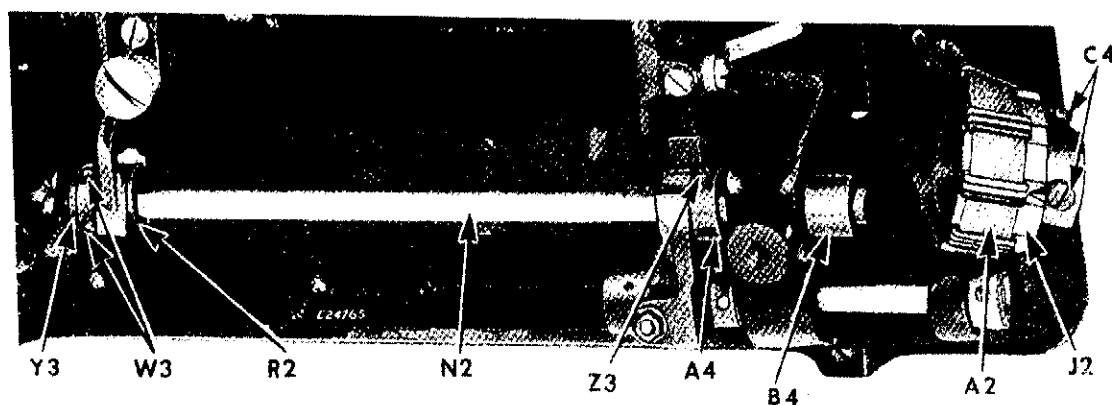
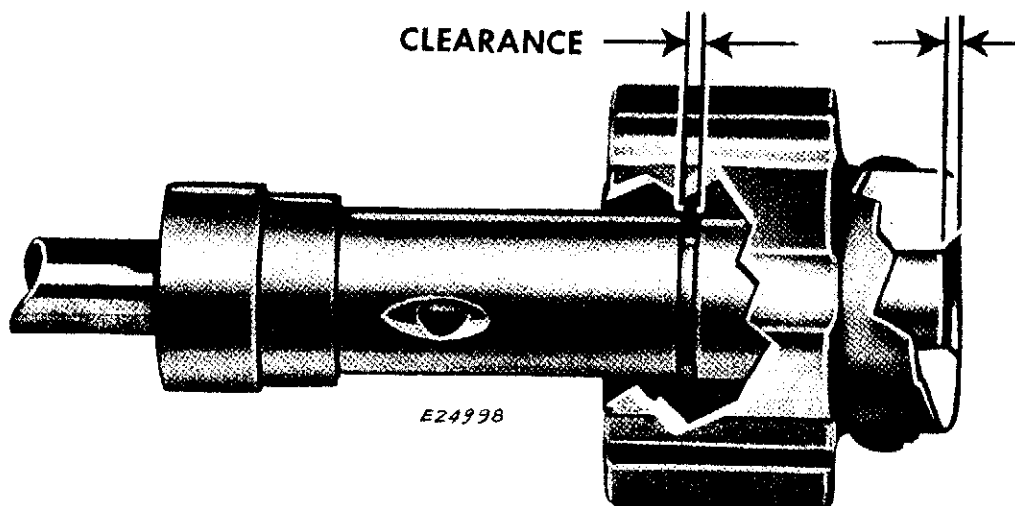

Fig. 52. Removing Sprocket and Hook Driving Shaft
Fig. 56. Lower Sprocket Clearance for Heat Expansion
Sprocket set too close to rear bearing bushing. See **Fig. 56**.
Never take up end play by bringing feed advance eccentric **A4**, **Fig. 52** against rear leg bearing.
2. Loosen sprocket screws **C4**, **Fig. 52**.
3. Mount feed advance eccentric with collar **A4**, **Fig. 52**. Collar must be set close to fork without rubbing against jaw of fork to avoid binding of machine from heat expansion.
NOTE: To avoid binding at end of bushing **B4** and sprocket **J2**, due to heat expansion, see **Fig. 56**.
NOTE: The end of hook driving shaft, toward the lower sprocket containing belt **A2**, Fig. 52, must be flush with the inside edge of the countersinking of the lower belt sprocket shaft hole to allow for 1/16 to 3/32 inch clearance for heat expansion as shown in Fig. 56.